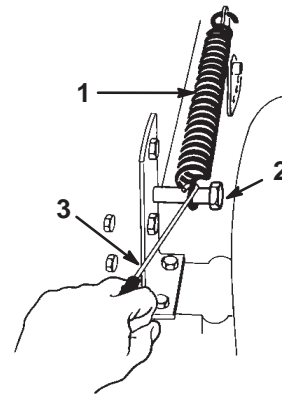

Figure 40
- Hook the height-of-cut lift assist spring onto the retaining bolt (Fig. 40) using the spring tool provided with the tractor.